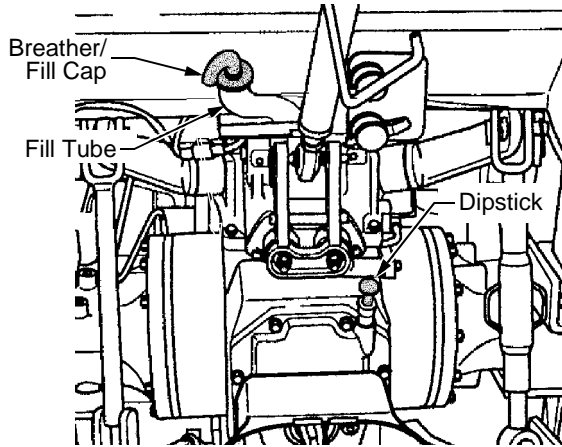

Figure 58
- Locate the transmission dipstick on the rear of the transmission at the back of the tractor. See Figure 58.
- Clean the area around the breather cap and fill tube on the back of the transmission to prevent debris from entering the transmission. Then turn the cap counterclockwise to unscrew from the oil fill tube. Refer to Figure 58.
- Clean the area around the transmission dipstick and breather cap to prevent debris from entering the transmission. Refer to Figure 58.